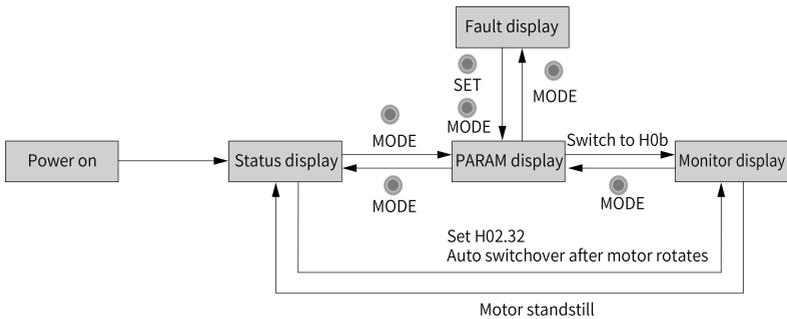

Figure 5-2 Switchover among different display modes
- Press MODE to switch among different display modes based on the conditions shown in "Figure 5-2" on page 56.